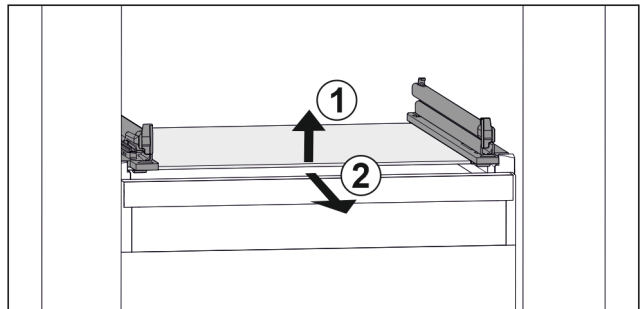

Fig. 158 Example illustration of glass shelf
- ▶ Lift glass shelf at the front. Fig. 158 (1)
- ▶ Take out glass shelf to the front. Fig. 158 (2)